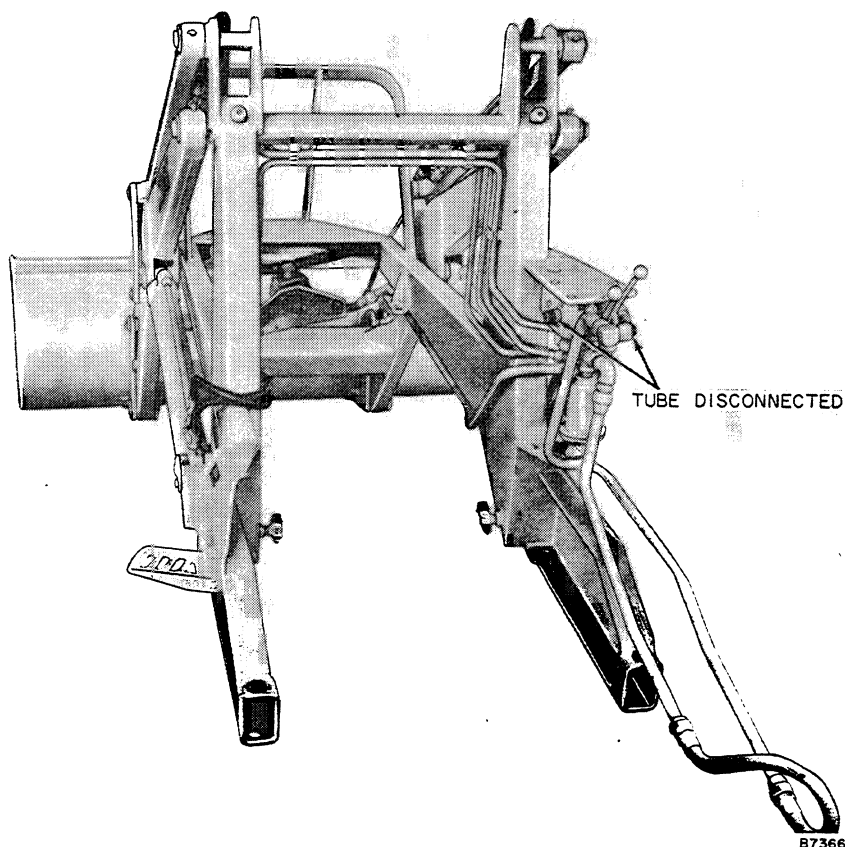

Figure 36 - Loader Removed
4. Disconnect tube from left hand side of Loader control valve. Plug the openings to prevent entrance of dirt into the system, see Figure 36.